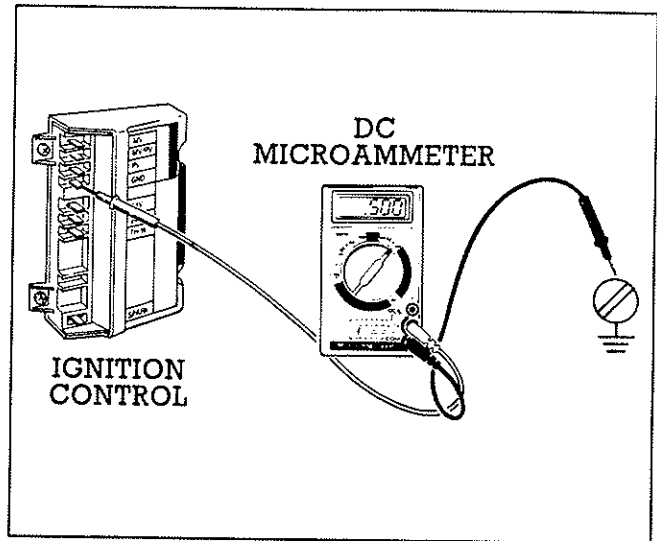

Figure 26. Pilot Burner Test
3. If wires and connections appear okay, measure the flame sensing current by connecting a DC microammeter as shown in Fig. 26.